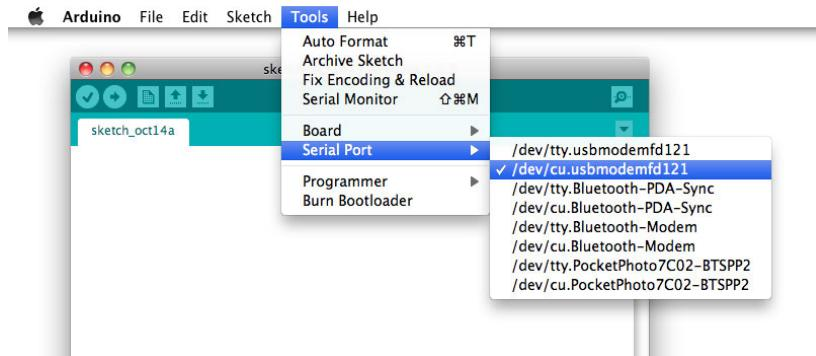

Figure 2-6. Your serial port will likely have a different name, but on a Mac, it will be similar to the one selected here.
5. Depending on your system, you may see a few different options under the Serial Port menu (Figure 2-6).
- a. **On Mac OS X**, select the serial port that shows something similar to “/dev/cu.usbmodemfd121” (see Figure 2-6). The last few digits will likely be something else. Do not select the one beginning with “/dev/tty”.